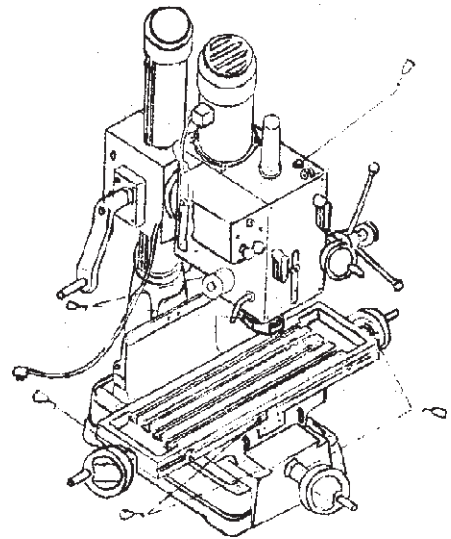

Figure 2. Lubrication Points.
3. Lubricate all points indicated in *Figure 2* with a 10 weight machine oil.